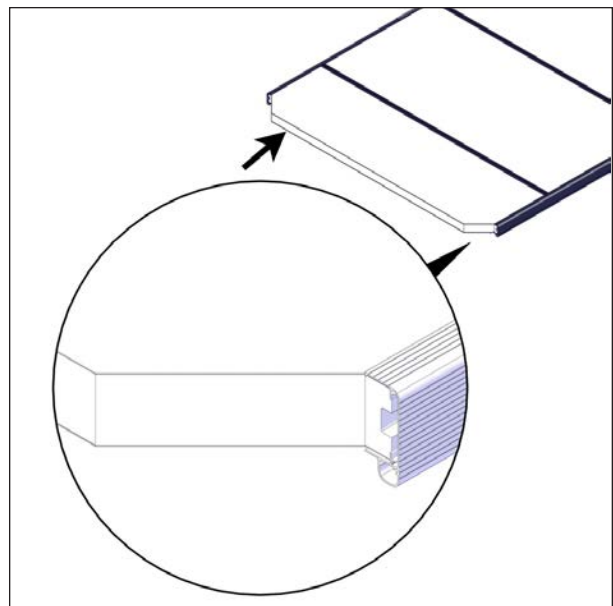

FIGURE 53: END PANEL INSTALLATION
16. Insert one end panel with the tapered end toward the end of the cover. The end panel is tapered with a 45° cut see Figure 53.